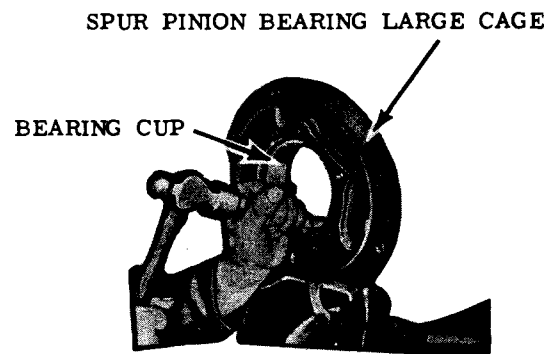

Figure 39. Removing bearing cup from large cage.
- (1) Stud replacement. Remove all damaged studs with a standard stud puller. To remove a broken stud, indent the end of the broken stud in the center with a prick punch. Using a small drill as a guide, drill to a depth of two thirds of the broken portion of the stud. Select a larger drill that will leave a wall slightly larger than the threads. Select a screw extractor of the proper size and remove the broken stud. Coat the treads of the new stud with a suitable sealing compound, and thread it in, until no threads are visible at lower end of stud.
- (2) Bearing cup replacement (fig. 36). If replacing the bearing cup (E) in the spur pinion gear bearing large cage (AA), remove the nuts (A) and lock washers (B) that attach the spur pinion bearing cage cover (EE) to the cage and remove the cover and shims (BB). Keep the shim pack intact to facilitate bearing adjustment when assembling. Place the bearing cage in a vise. Using a brass drift, tap alternately around the cup (fig. 39) until the cup is free of the cage. If working on the spur pinion gear bearing small cage, remove the bearing cup with a suitable puller. Place a new bearing cup in the large cage with large part of taper facing away from the outside of cage. Press the cup approximately three-quarters of the way in the cage. Place a new gasket and the shim pack that was removed, in place on the cage. Install the cover and secure with lock washers and nuts. Place a new bearing cup in the small cage with the large end of taper facing outward. Press the bearing cup in the cage until firmly seated.